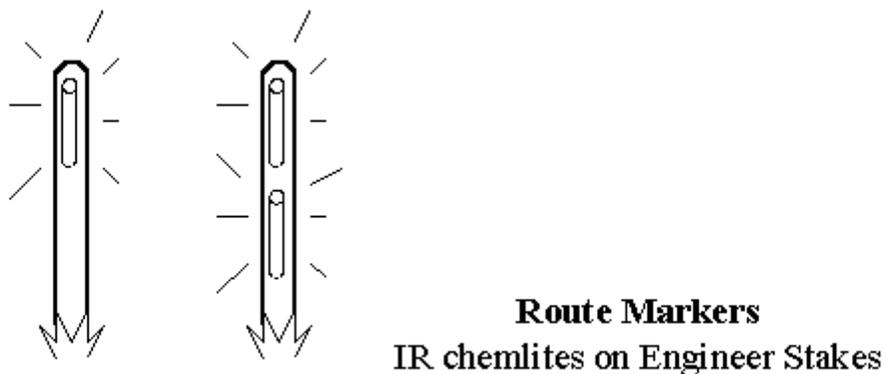

Figure 3-3. Route Markers.
2. **The standard marker is an engineer stake.** A white engineer tape streamer is used in daylight. A chemlite secured to the convex side of the stake is used at night. Two streamers or two chemlites indicate a checkpoint. See Figure 3-3.